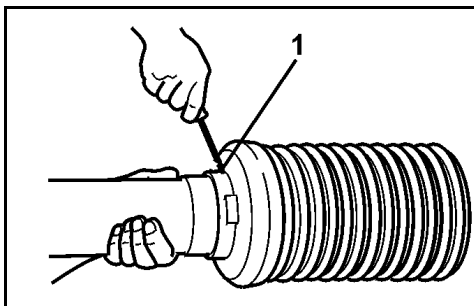

Fig. 52
6. Remove the grease nipple (Fig. 52/1) and attach the PTO shaft (Fig. 52/2).
7. Secure the connection fork (Fig. 52/3) into place using a shear pin (Fig. 52/4).
8. Screw in the grease nipple (Fig. 52/1).